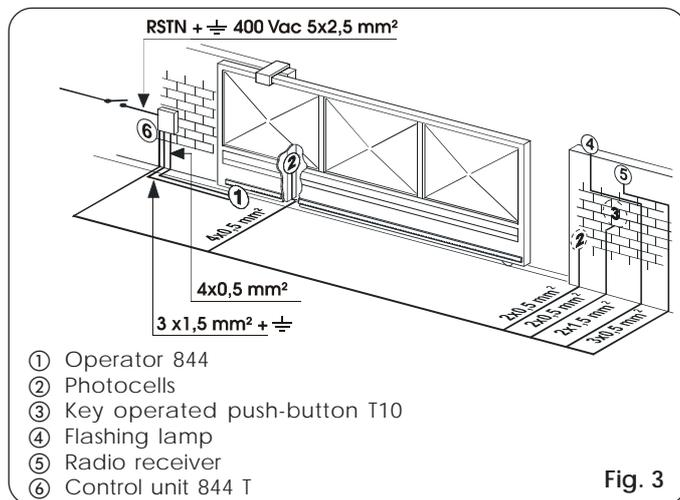

Fig. 3
4) Lay the electrical cables for connection to the accessories and power supply as in Fig.3. To facilitate making connections, allow the cables to protrude by about 40 cm from the hole (Fig.5-6 ref. ❶) of the foundation plate.